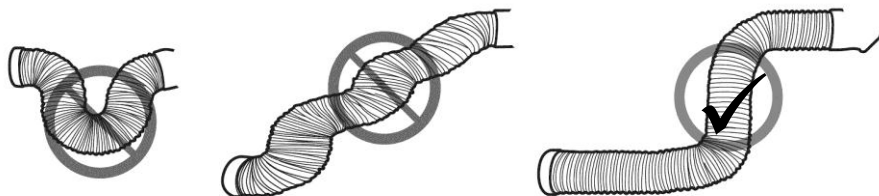

Fig. 20
- Do not over extend or twist the exhaust hose (fig. 20).